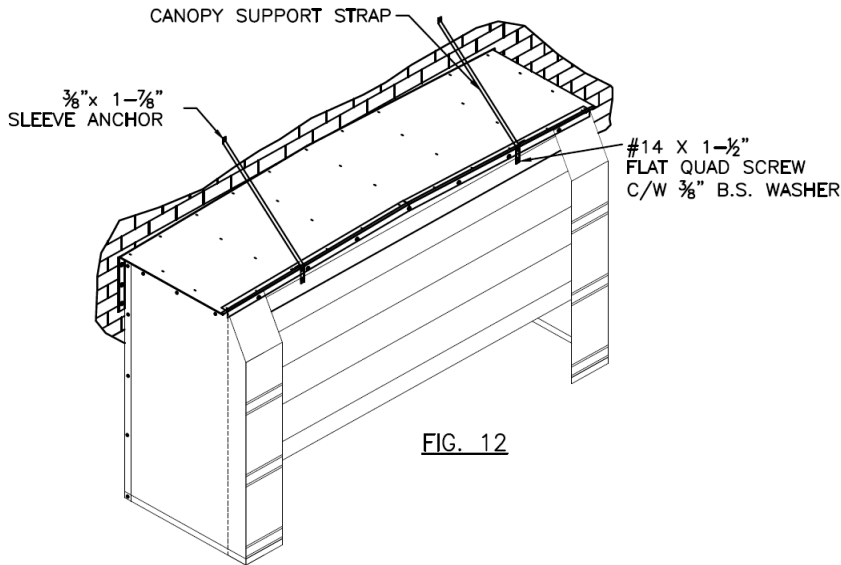

FIG. 12
- i. Screw support straps to front of canopy (Fig. 12).